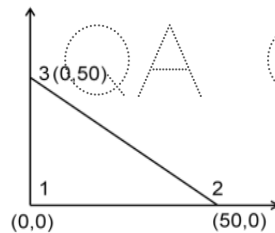

Figure 4
6. Determine the stiffness matrix for the axisymmetric element shown in the figure 4. Take  $E = 2.1 \times 10^6 \text{ N/mm}^2$  and Poisson's ratio as 0.3. All dimensions are in mm only. [10]